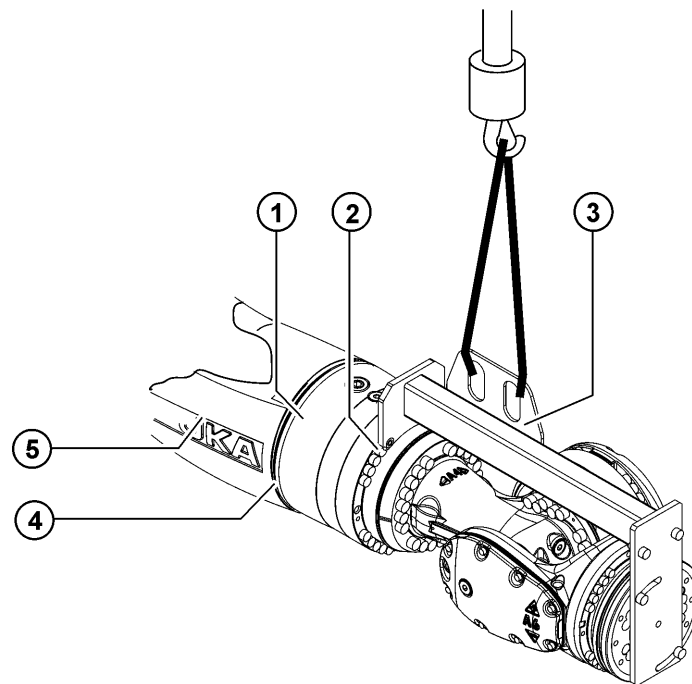

Fig. 11-27: Removing the in-line wrist
- The arm is in the horizontal position as shown in (>>> Fig. 11-27).
1. Fasten the lifting device to the in-line wrist and the crane (>>> Fig. 11-27).